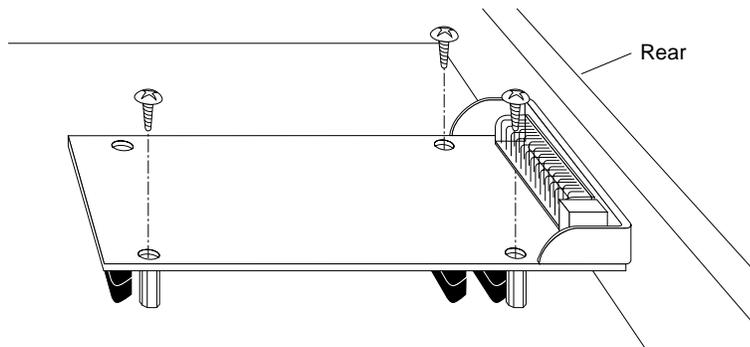

Figure 3-6 Securing the Presenter 1280 Board
- Using the Phillips screwdriver, insert and tighten the three screws in the locations shown in Figure 3-6. As you tighten the screws, alternate among them so that the board is fastened evenly.